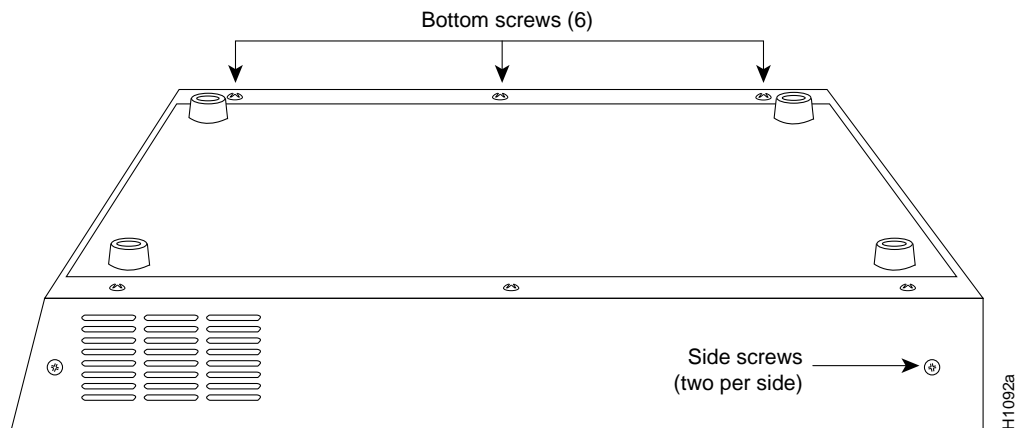

Figure 8 Screw Locations on the C Chassis Exterior—Side View
- Step 3** Use the No. 2 Phillips screwdriver to remove the ten screws that secure the cover of the C chassis. There are two screws on each side and six screws on the bottom of the chassis. (See Figure 8.)
- Step 4** Position the chassis so that the back (the side with the ports) is on your left; the front of the chassis (with the LED) is on your right; and the chassis top is facing up. (This is completely opposite of the chassis position shown in Figure 8.)